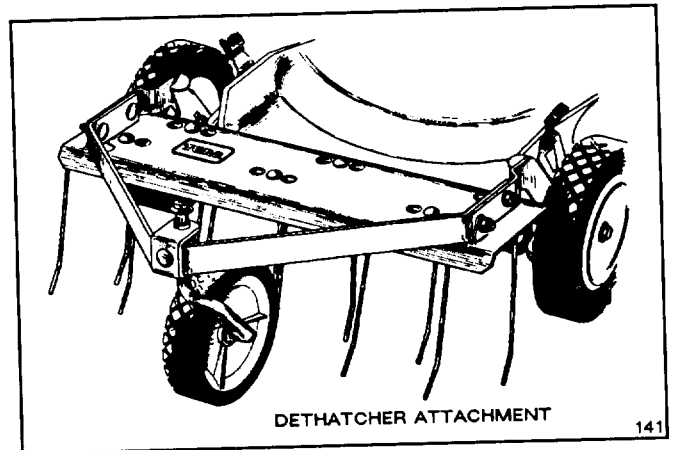

Figure 22
2. **Dethatcher Kit, Model No. 59131**—Installs in minutes. Front mounted for easy maneuverability. Spring tines loosen thatch for cutting or clean vacuuming into a grass bag (Fig. 22).